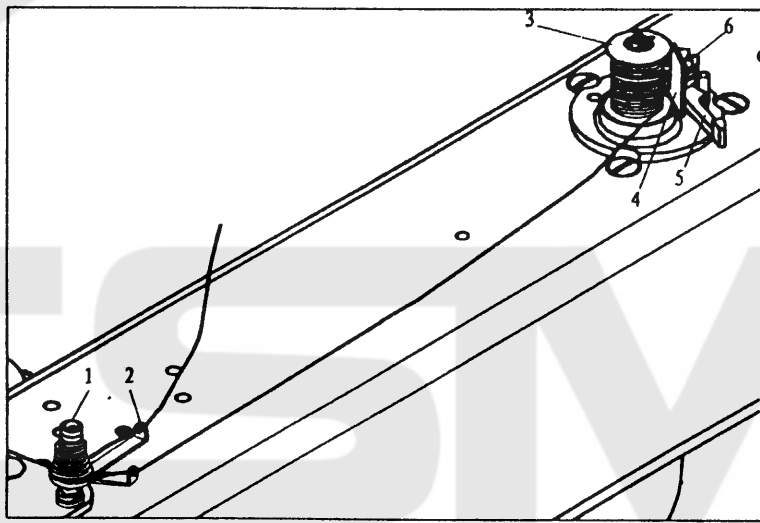

Fig.3
5、 WINDING OF BOBBIN THREAD (Fig.3)
6、 ADJUSTMENT OF THE BOBBIN WINDER (Fig.3)